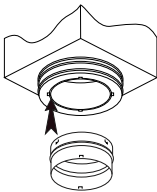

Figure 3
• **Clip designed adapter (Figure 3)**